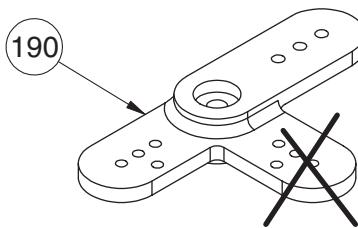

Figure I-18
- 1. For slide valve carburetors, you will need to remove the shorter, perpendicular Arm of the Throttle Servo Arm (190), as shown in Figure I-18. Cut off the Arm with heavy duty clippers or a Dremel™ hobby tool.